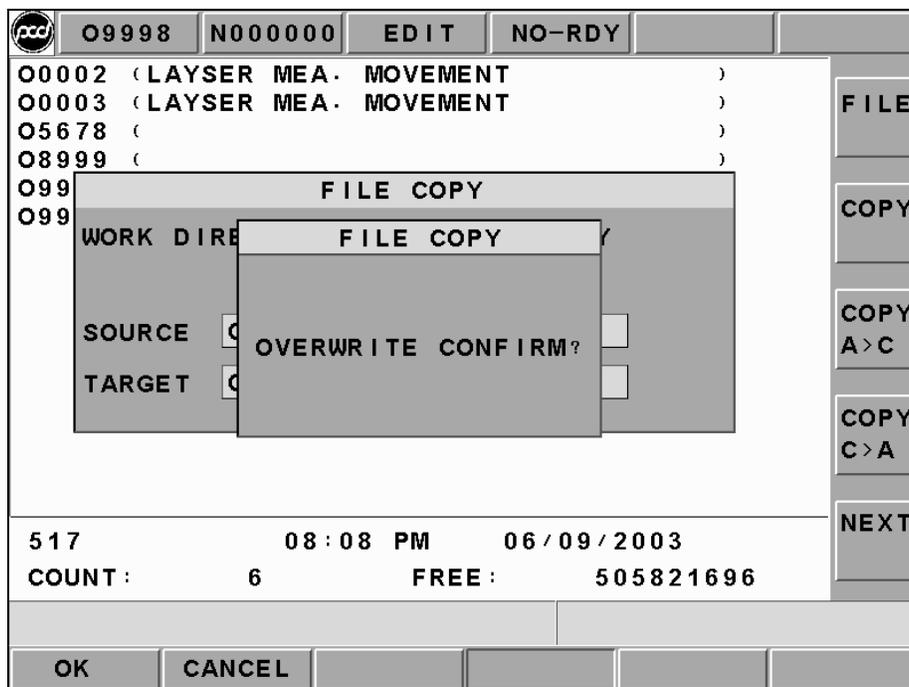

Figure 2.5-17 File Overwrite Confirmation Screen
3. If there is the same file name in the destination drive, the system will ask users to overwrite the already existed file. Pressing confirm button to overwrite the file, like Figure 2.5-17.